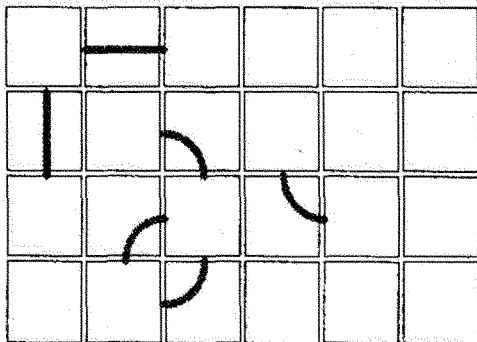

Fig 7
10. Duplicate the line and quadrant as required and place in the appropriate squares using the "drag" tool. With the "Snap to Grid" the alignment is automatic (Fig.7)